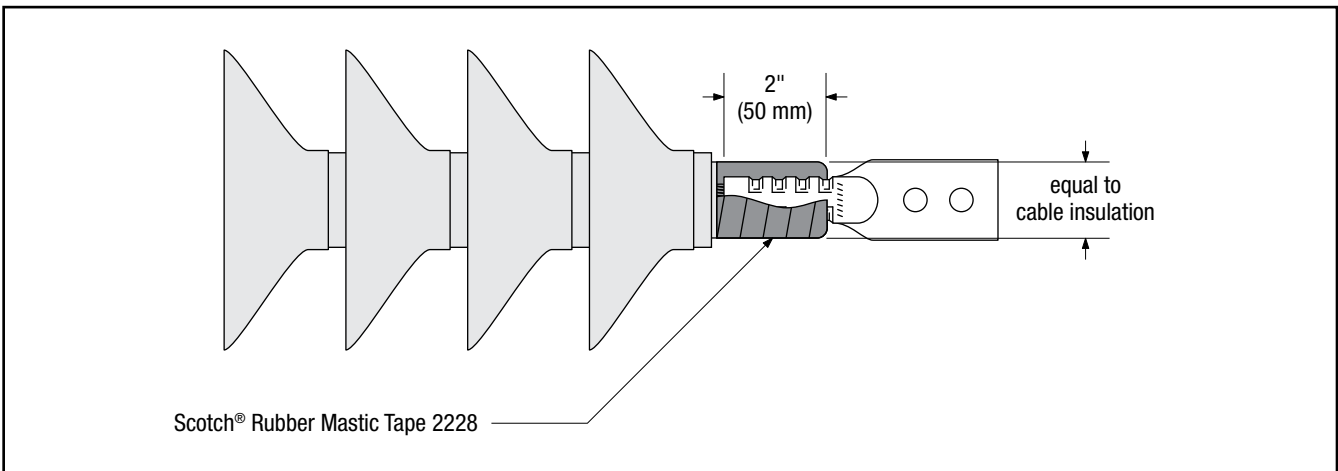

Figure 16
5.2 Wrap Scotch® Rubber Mastic Tape 2228 half-lapped over the lug barrel and insulation/lug gap, building to a diameter equal to the cable insulation. Cover 2" (50 mm) of the lug barrel. (Figure 16)